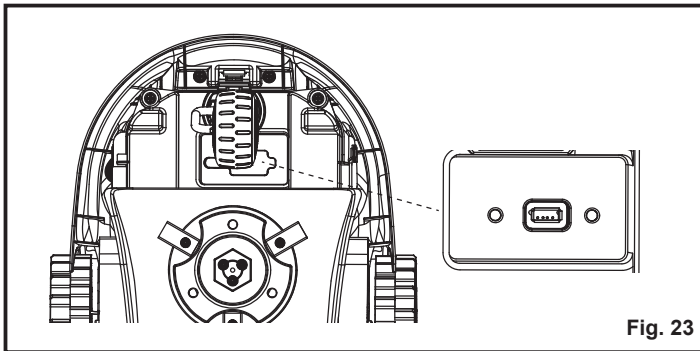

Fig. 23
3. Turn the mower upside-down. Wear protective gloves and open the USB port rubber cap to reveal the USB port (Fig. 23).